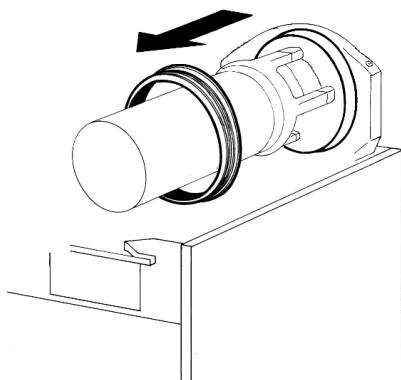

figure 9
- 4** Remove the bowl gasket from its seat (see figure 9).